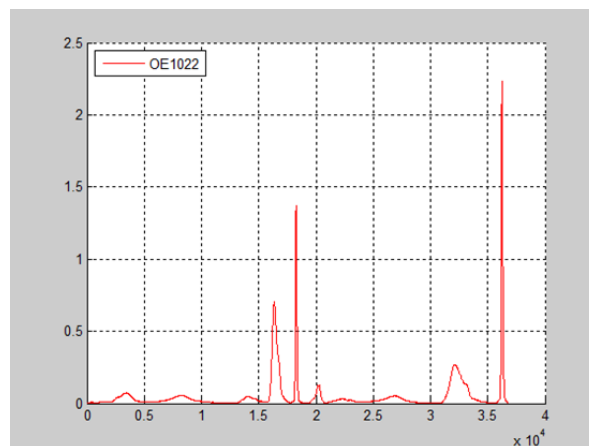

Fig.101 OE2041 Detected Spectrum Curve Chart
4. Start the spectral measurement and collect data from the data collection platform. Then, you will get an uncalibrated spectral image as is shown in Fig.101